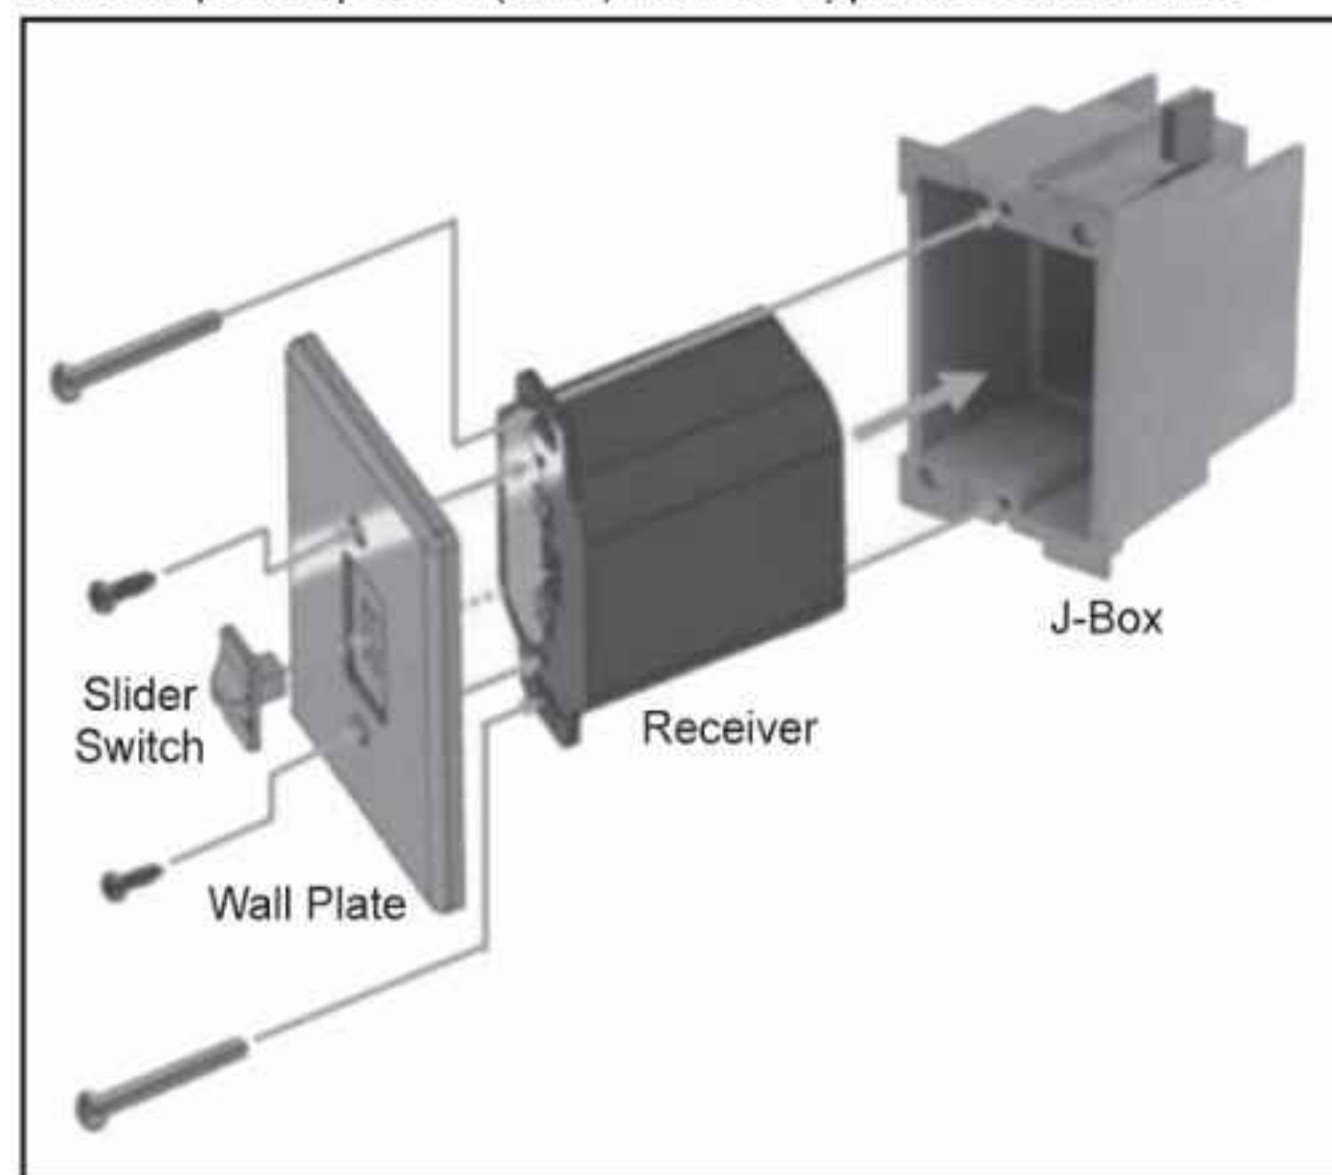

Figure 107: Wall Mounting the Receiver.
The Proflame GTMFS has six (6) flame levels. With the system on, and the flame level at the maximum in the appliance, pressing the Down Arrow Key once will reduce the flame height by one step until the flame is turned off. The Up Arrow Key will increase the flame height each time it is pressed. If the Up Arrow Key is pressed while the system is on but the flame is off, the flame will come on in the high position (refer to Figure 107). A single "beep" will confirm reception of the command.